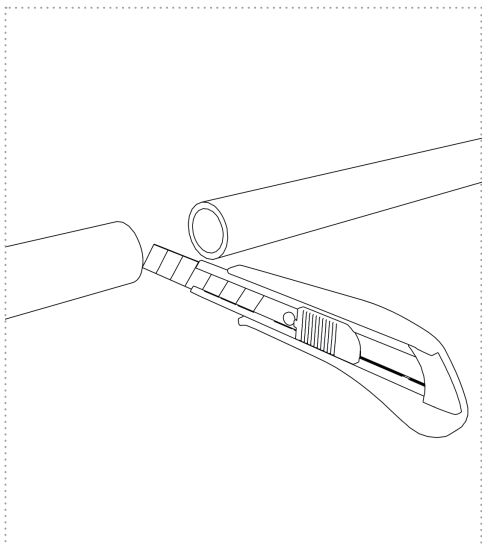

Figure 7
1. Cut the water line at the desired installation location according to Figure 7.